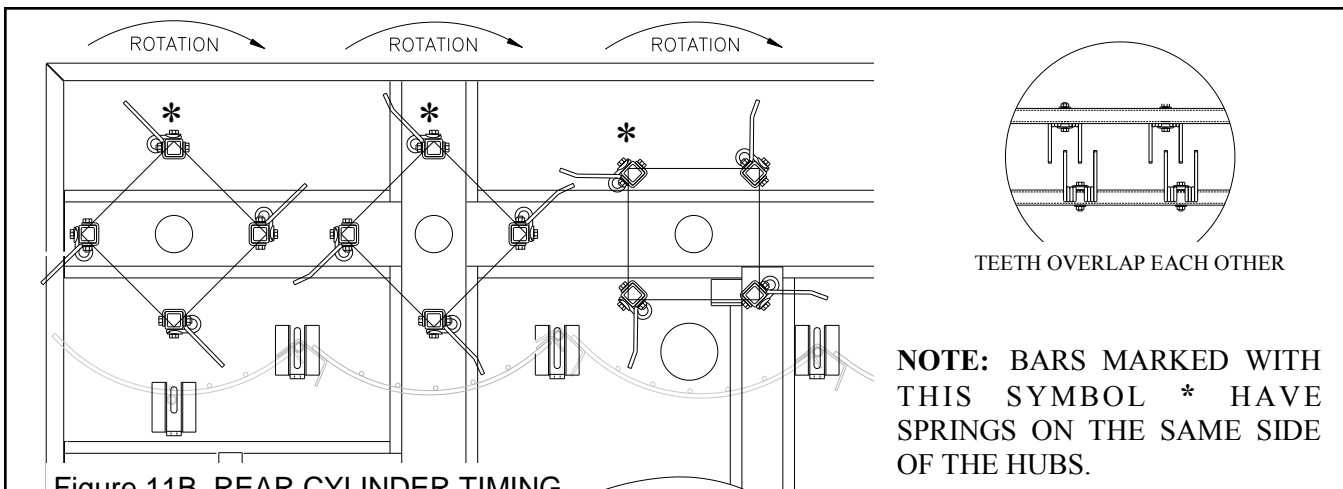

Figure 11B REAR CYLINDER TIMING
In certain tough conditions, the vines may not break up easily and may tend to wrap around the last few cylinders in the combine. If this becomes a problem, it can be improved by timing the last 3 cylinders. Cylinders 5, 6, & 7 turn the same speed. The springs on each bar should interlace and pull on the vines as they pass each other. Figure 11B shows the correct setting. Remove the drive chains and rotate the cylinders into position. Reattach the drive chains.
1. Vine conditions tough. Adjust the rear cylinder timing as shown in Figure 11B, Page 8.